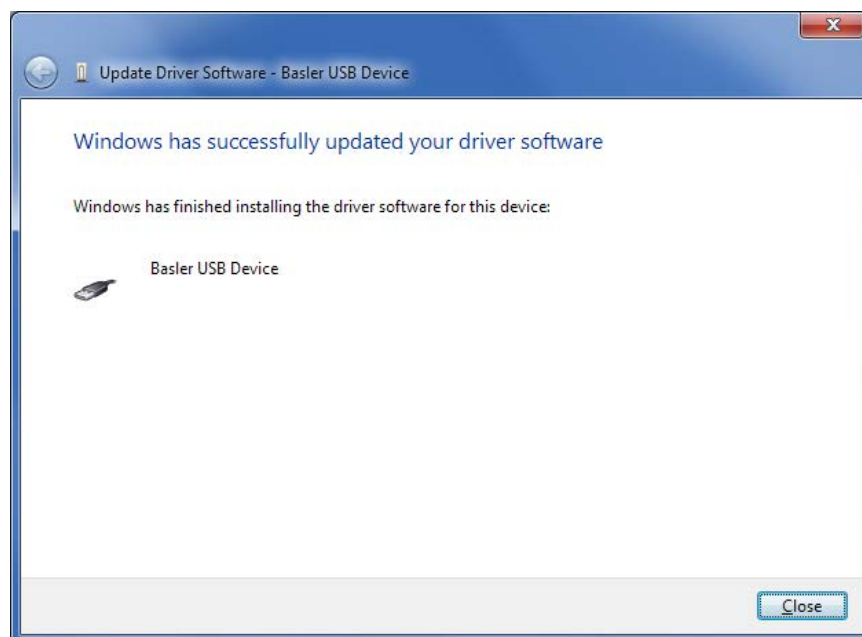

Figure 87. Driver Software Update Successful
Step 7. The window in Figure 87 appears if driver installation was successful.